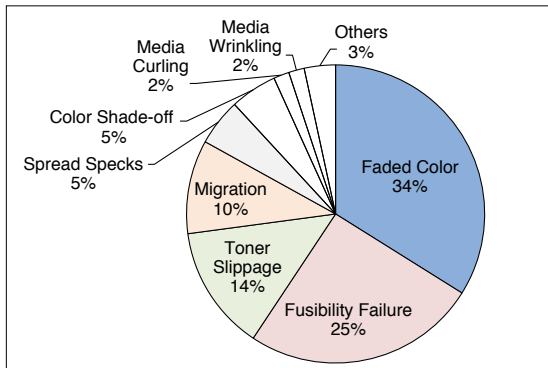

Figure 3. Breakdown of Printing Failures
**Figure 3** shows the examination result of printing failure symptoms undergoing adjustment requests.
Based on the result in **Figure 3**, faded color, fusibility failure and toner slippage were selected for learning data.